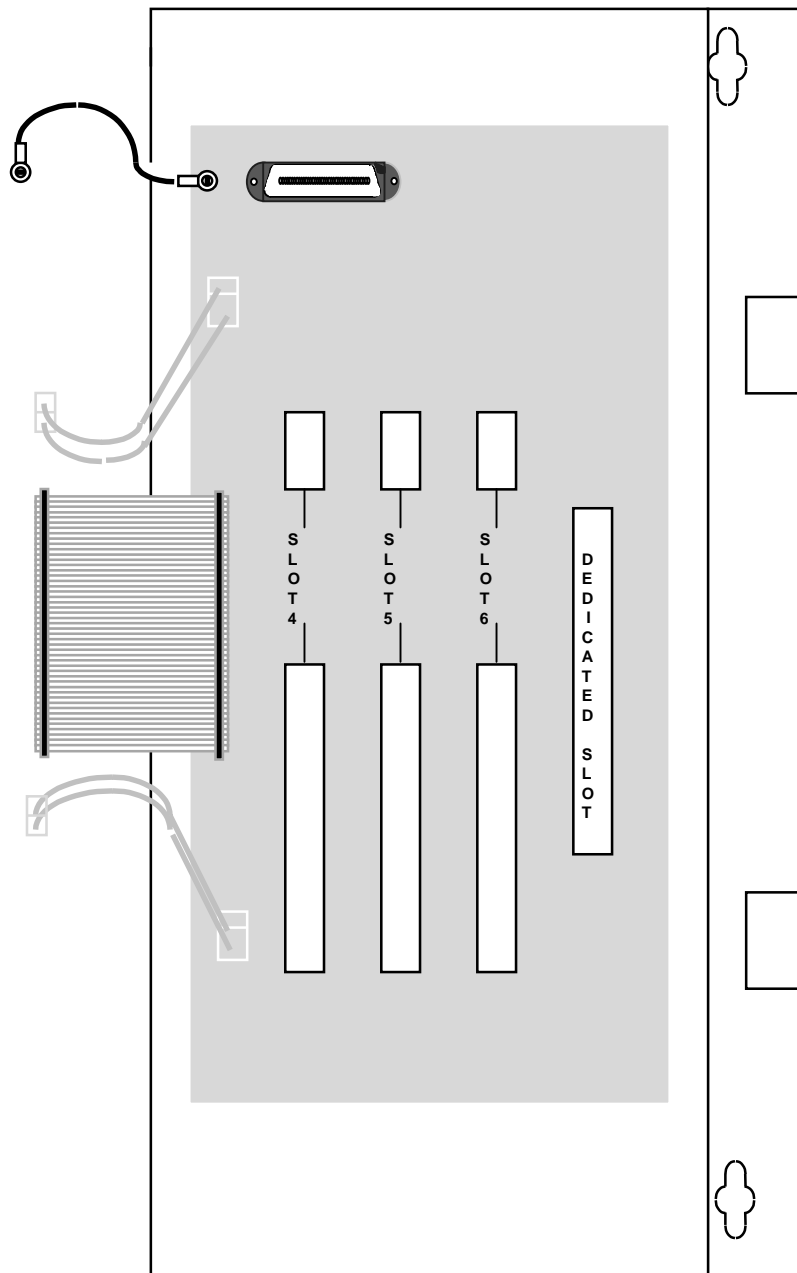

Figure 3-3 Expansion Cabinet
1. The Expansion Cabinet has two mounting lugs on the left hand side of the cabinet which fit into slots on the KSU. In addition the cabinet has 2 key holes on the right hand side of the cabinet to complete the mounting. (see Fig 3-3)